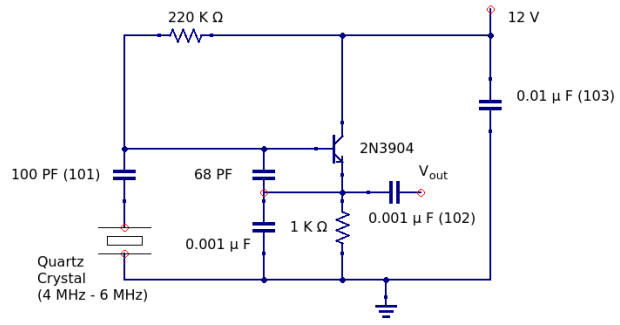

Figure 2
- Build the circuit shown in Figure 2.